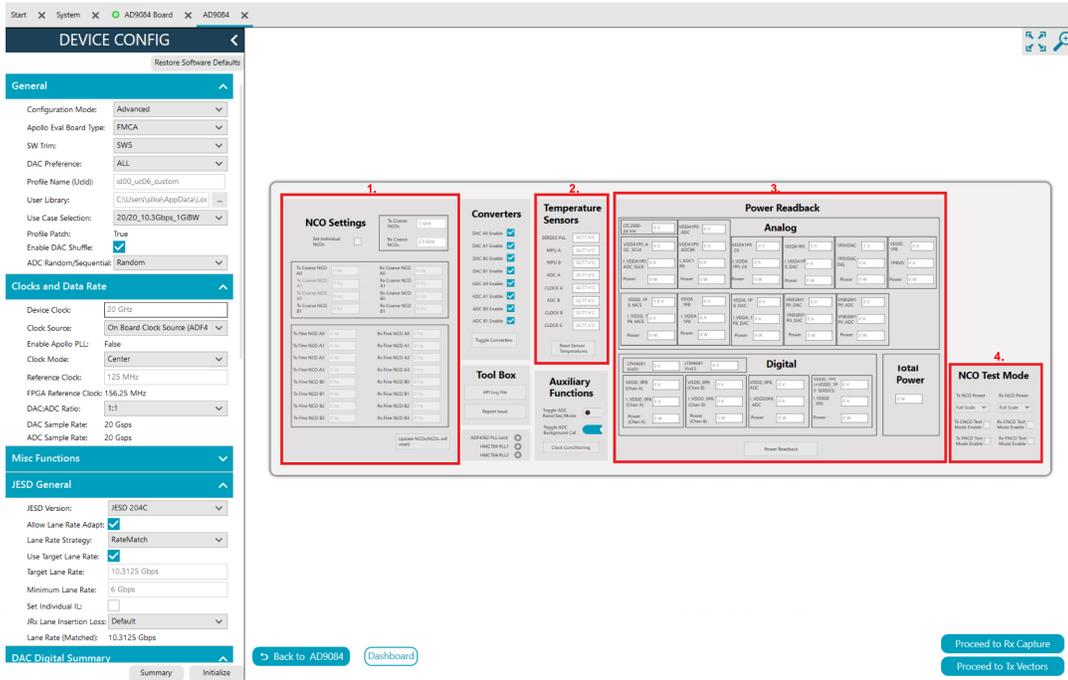

Figure 24. Dashboard
3. Click **Power Readback** to populate the **Power Readback** fields shown in **Figure 24**. The numbers shown in **Figure 24** are for illustration only; real power numbers depend on the configuration. For board versions prior to the AD9084-FMCA-EBZ Revision C, several of the fields show as being zero, and the **Total Power** number does not include power from all domains.
- c. Select the **Desired Frequency** for the DAC. Note that this frequency is offset (shifted) by the numerically controlled oscillator (NCO) frequency set in the **Dashboard** (see Figure 24).
5. From the **Dashboard** view (see Figure 24), set the NCO frequency within the **NCO Settings** area to the desired frequency to mix with the baseband signal.